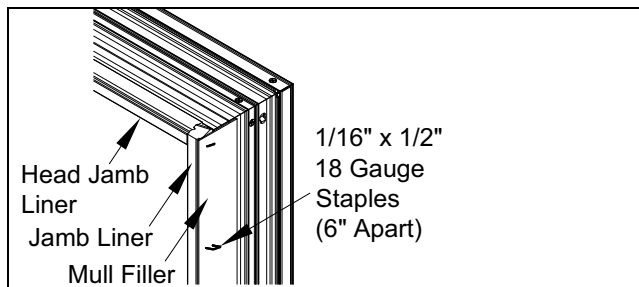

Figure 1
2. Measure, cut, and apply mull filler on center unit to full length of both side jambs, align filler with interior jamb liner face. Fasten filler to jamb liners with 1/2" x 1/2" 18 gauge staples spaced 6" (15) apart. See Figure 1.